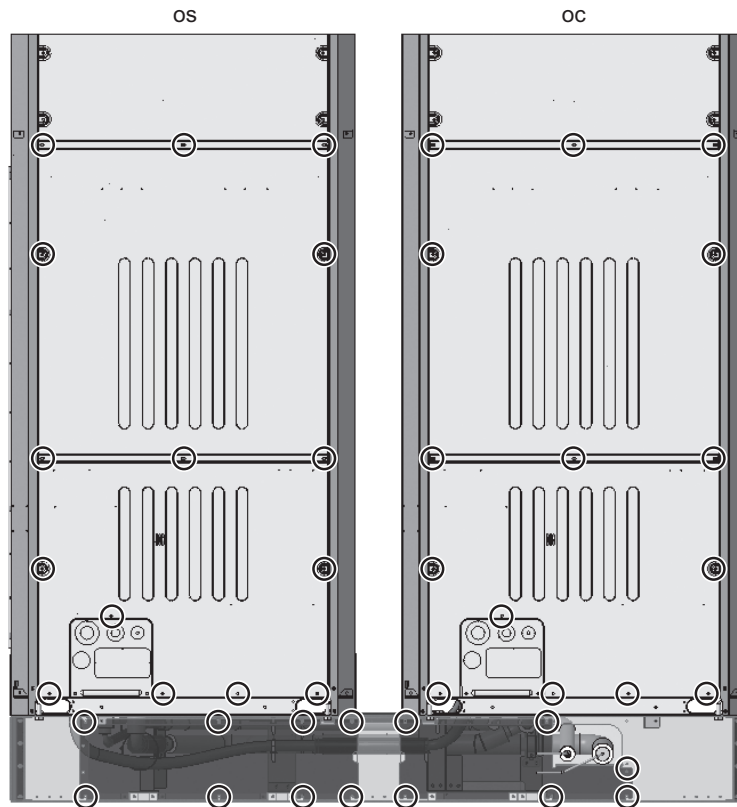

Fig. 1
(1) Remove the front panels of the casing. (44 screws: Fig. 1)